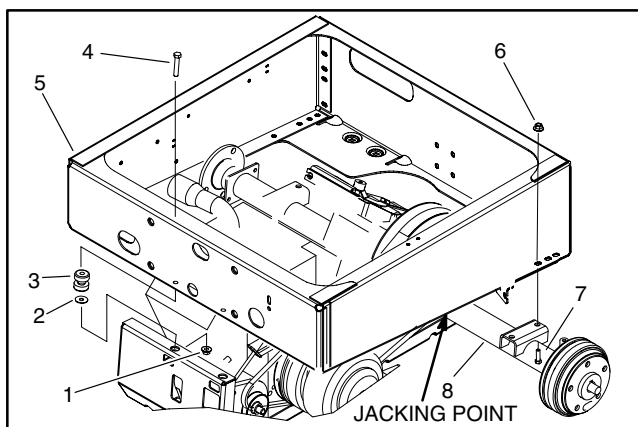

Figure 23
7. Jack up both sides of the frame (at the jacking point indicated) enough to remove rear wheels (Fig. 23).
10. Remove both flange lock nuts, flat washers, isolation mounts, and cap screws securing the engine mount to the rear frame (Fig. 23).
13. Remove four flange lock nuts and hex head flange screws securing the transaxle to the rear frame. Remove transaxle from the rear of the vehicle (Fig. 23).
1. Position transaxle and driven clutch to the rear frame. Secure transaxle to the rear frame with four hex head flange screws and flange lock nuts (Fig. 23).
4. Secure engine mount to the rear frame as follows (Fig. 23 and 25):